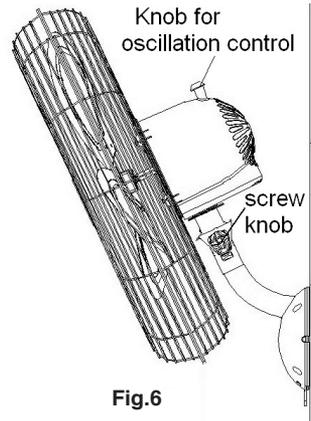

Fig.6
2. When turn on, the unit can also be oscillation by pushing down the knob at top of its head or still in any position by pulling the knob up (Fig.6)
3. To adjust the tilt of the unit you should loosen the screw knob at the right first, then turn up or down the unit head to the desire angle, tighten again the screw knob. (Fig.6)